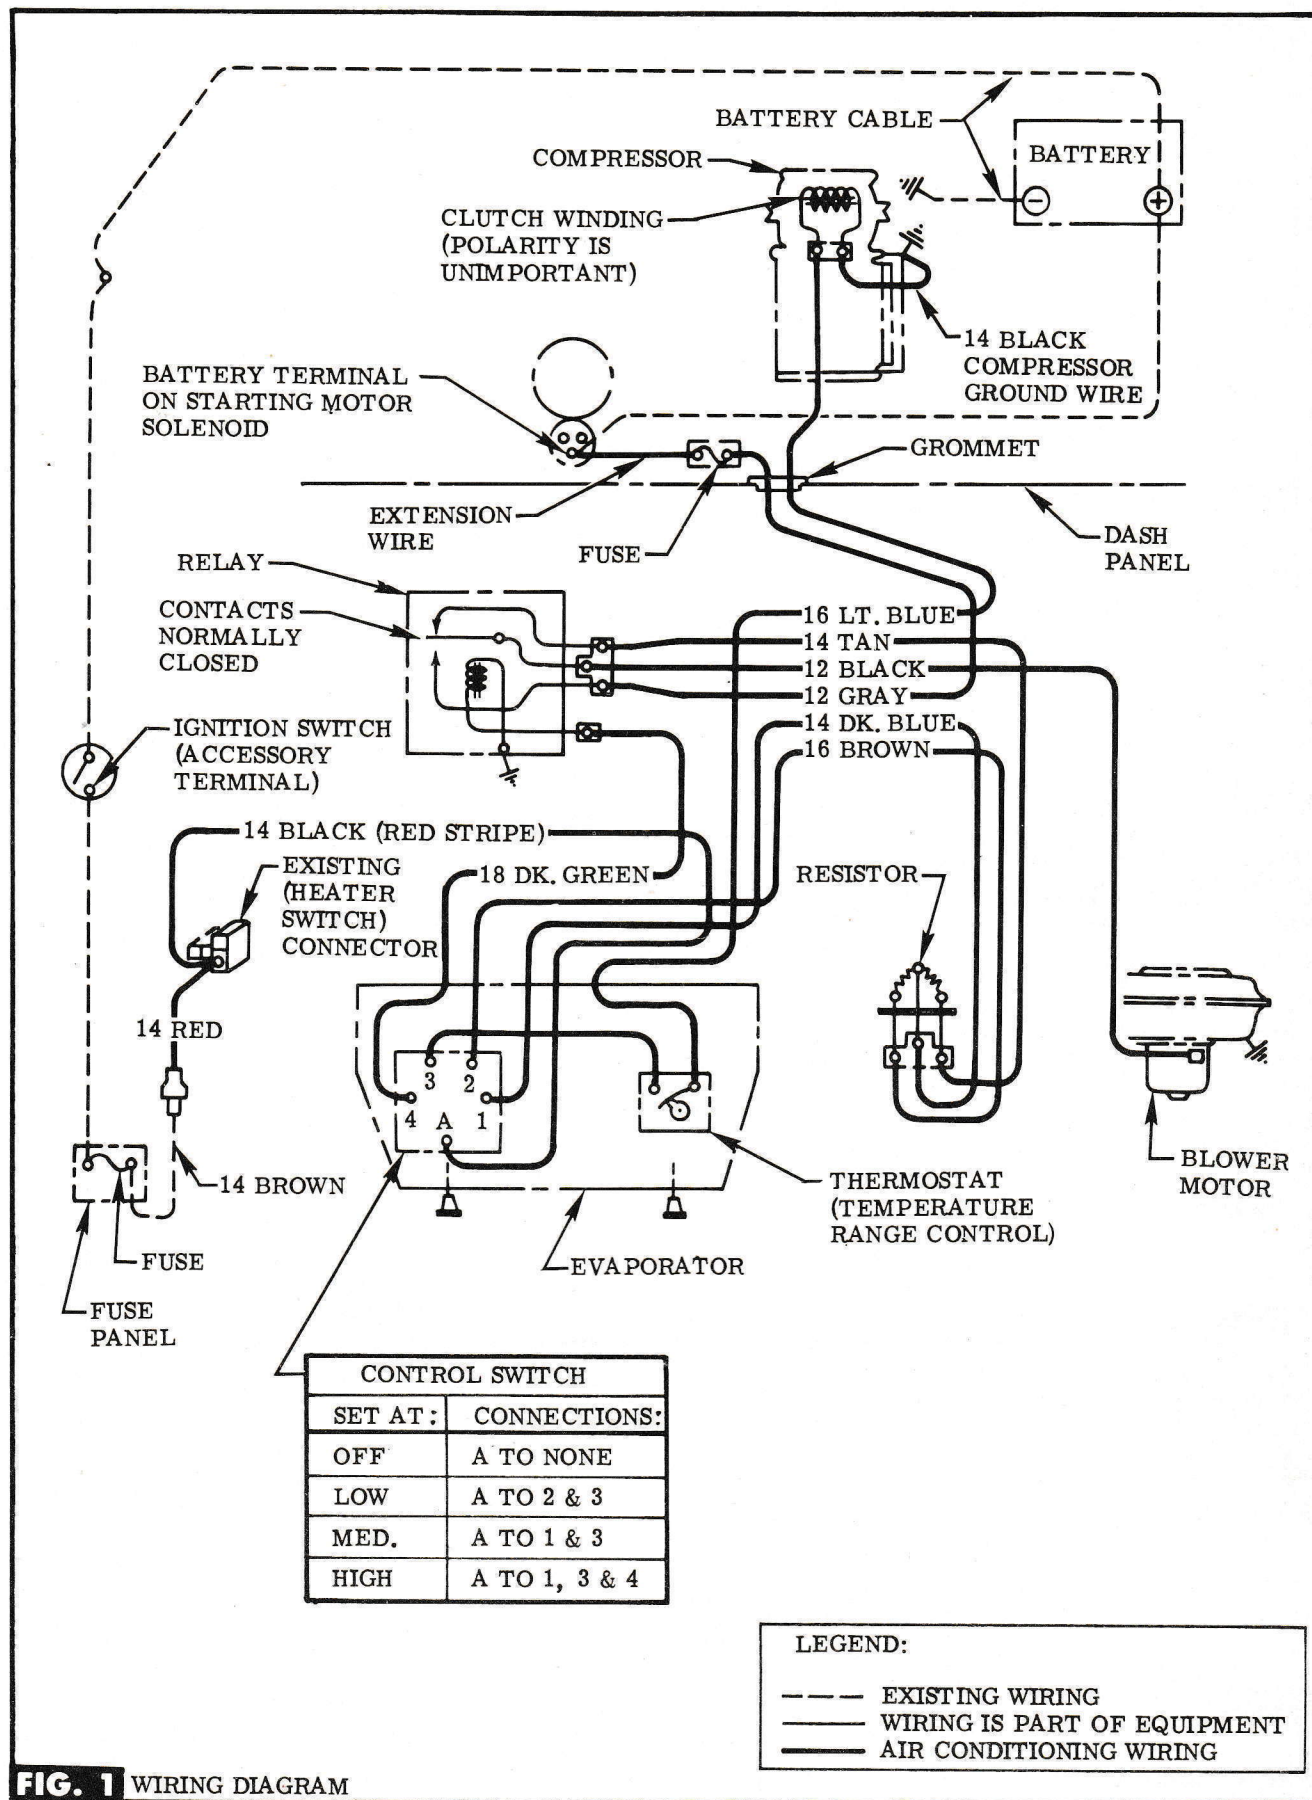

FIG. 1 WIRING DIAGRAM
SOR GROUND WIRE INTO EVAPORATOR HARNESS CONNECTOR. SEE FIG. 1.
STEP 4 (EXCEPT "409" ENGINE) ATTACH EXISTING BATTERY GROUND CABLE TO COMPRESSOR SUPPORT WITH SUPPORT ATTACHING PARTS. ON VEHICLES WITH HEATER, ROUTE CABLE TO REAR OF HEATER HOSES. SEE FIG. 1 & VIEW B.